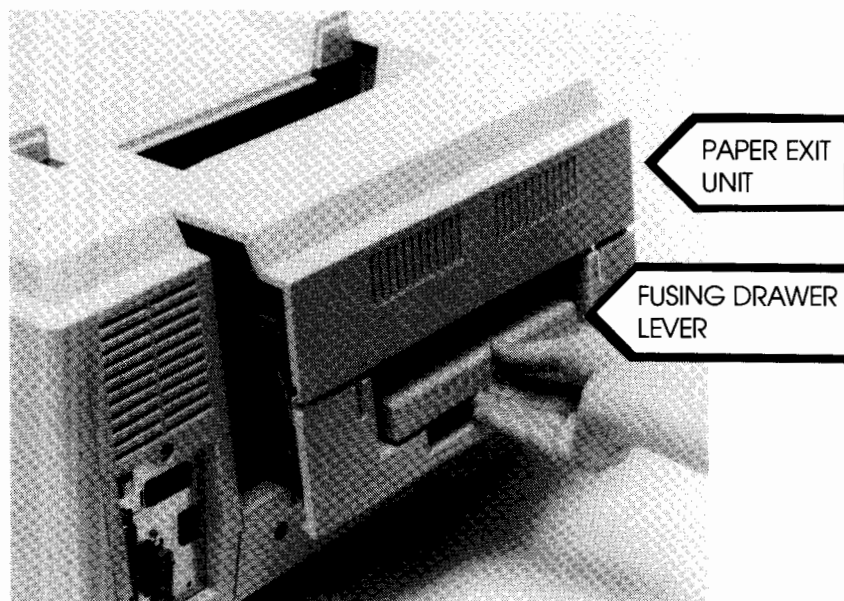

Figure 5-2. Opening Paper Exit Unit
**IF THE INDICATOR AT POINT (A) ILLUMINATES, CHECK THE PAPER EXIT UNIT AND FUSING UNIT AS FOLLOWS:**
- a. Pull out the paper exit unit horizontally while lifting up the fusing drawer lever (see figure 5-2).